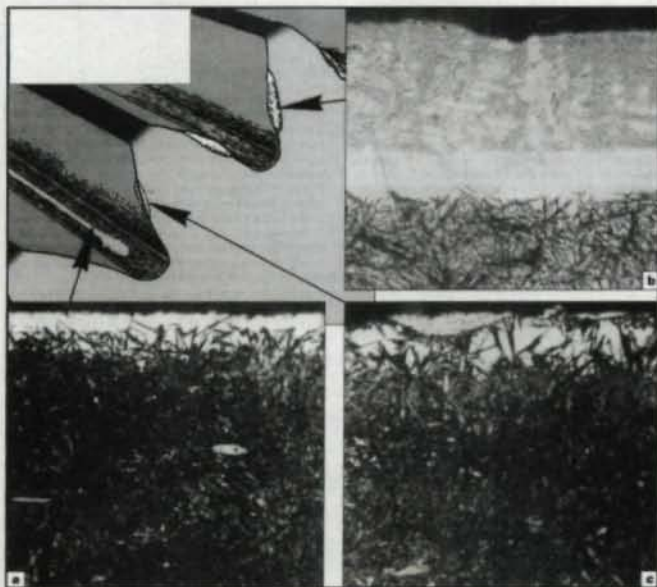

Fig. 17—Overheating and melting: (a) overheating (x450); (b) melting (x100); (c) overheating with a trace of melting (x540). Steel: 817M40.
3) Melting and Overheating. If the local temperature becomes too high due to, for example, too close a couple, there will be a risk of surface overheating or melting. Overheating produces a coarse martensitic microstructure in the as-quenched surface. A melted area produces a surface layer with a dendritic structure and a sublayer of overheated material (Fig. 17). Such occurrences are to be avoided, although localized occurrences at tooth end run outs can be dressed to remove the effects.